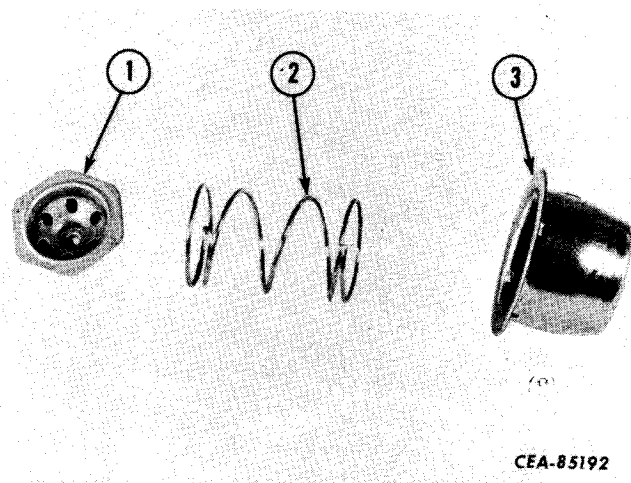

Figure 13-65
Separate the check valve and seat (1, Fig. 13-65) and the spring (2) from the valve retainer (3).